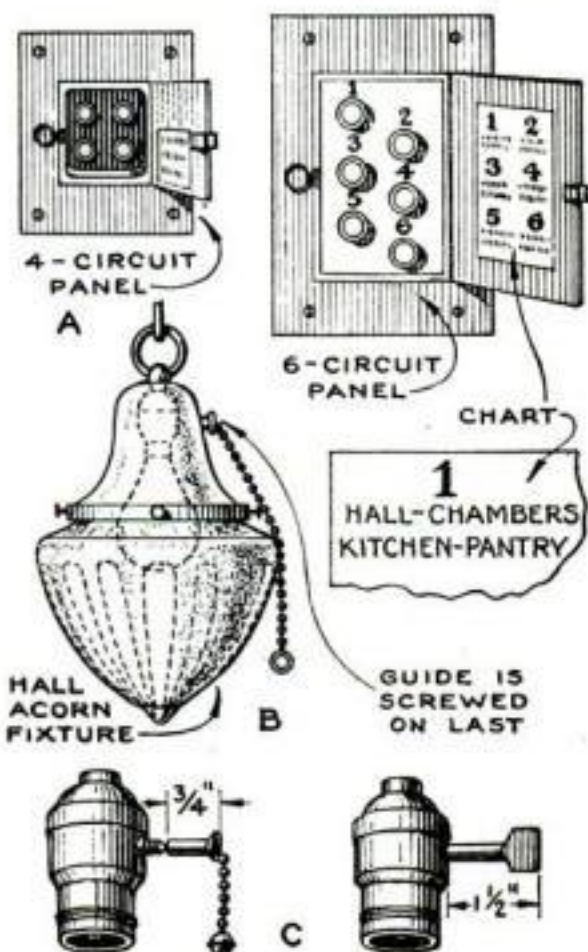

Fig. 3. Convenient hall fuse-panel boards, an extension chain guide, and a long key.
It is now possible to obtain very compact and neatly designed flush-type fuse-panel boards, as shown at A, Fig. 3. If one of these is installed in the wall in a hall or other accessible place, the changing of fuses becomes an easy task when a blow-out occurs. A chart pasted on the door on the inside, with numbers corresponding with the fuses in the panel, tells which fuse controls the circuit in question.
*How can the unsatisfactory operation of a pull socket be overcome when it is used with a wide socket cover like that sketched at B in Fig. 3?*
Pull-chain sockets are supplied with extra long guides (B and C, Fig. 3) to carry the bead chain out far enough to clear the edge of the cover. Such a guide allows the chain to be pulled easily and smoothly. Key sockets with extra long keys (also shown at C, Fig. 3) are obtainable for the same purpose.